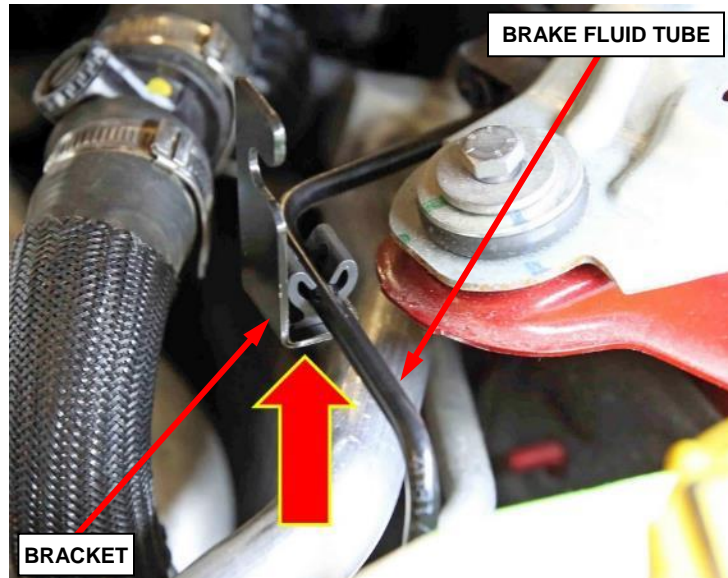

Figure 16 – Install Bracket to Brake Fluid Tube
3. Install the brake fluid tube retaining bracket to the brake fluid tube (Figure 16).